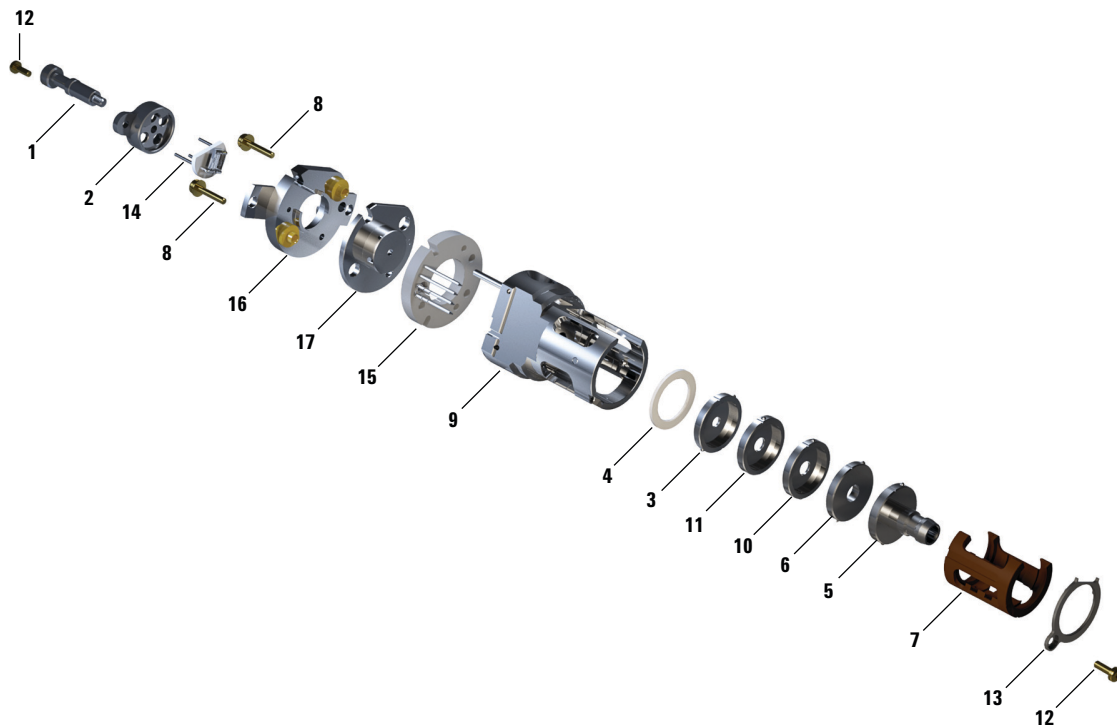

Figure 57 Exploded parts view of the EI HES
Refer to the exploded parts view **Figure 57** and the EI HES parts list **Table 18** on page 182 while using this procedure.
Table 18 Parts list for EI HES (Figure 57)
**Table 18 Parts list for EI HES (Figure 57) (continued)**